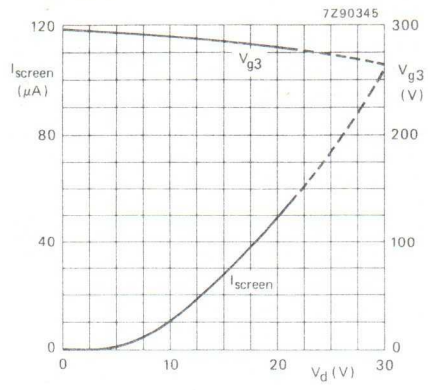

Fig. 5 Screen current (I_{screen}) and focusing voltage (V_{g3}) as a function of grid drive voltage (V_d); typical curves.
5. An actual focus range of 30 V should be provided on the front panel. V_{g3} decreases with increasing grid drive (see also Fig. 5).
6. Intensity control on the front panel should be limited to the maximum useful screen current (approx. 50 μ A; see also Fig. 5). It is to be adjusted either by the grid drive (up to 22 V) or for maximum acceptable line width. The corresponding cathode current or $I_{g2,g4}$ (up to 500 μ A) depend on the cut-off voltage and cannot be used for control settings.
The tube can be mounted in any position. It must not be supported by the socket and not by the base region alone. The reference points on adjoining edges of the faceplate (see Fig. 5) enable the tube to be mounted accurately in the front panel, thus providing optimum alignment of the internal graticule.